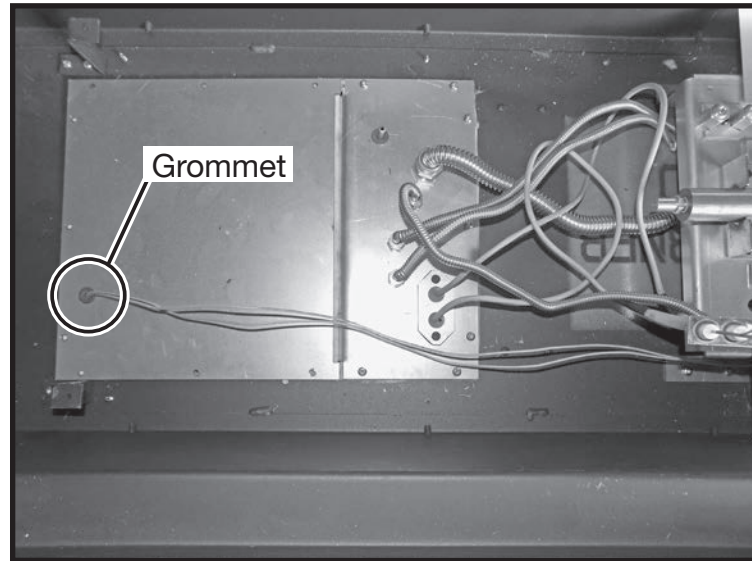

Figure 45: Wires through grommet.
2. Remove large cover panel. If this fireplace has lighting built in to the secondary floor, it will be necessary to disconnect the lighting wires from the electrical connection compartment in front of the control box in order to withdraw the lighting wires through the grommet (Figure 45).